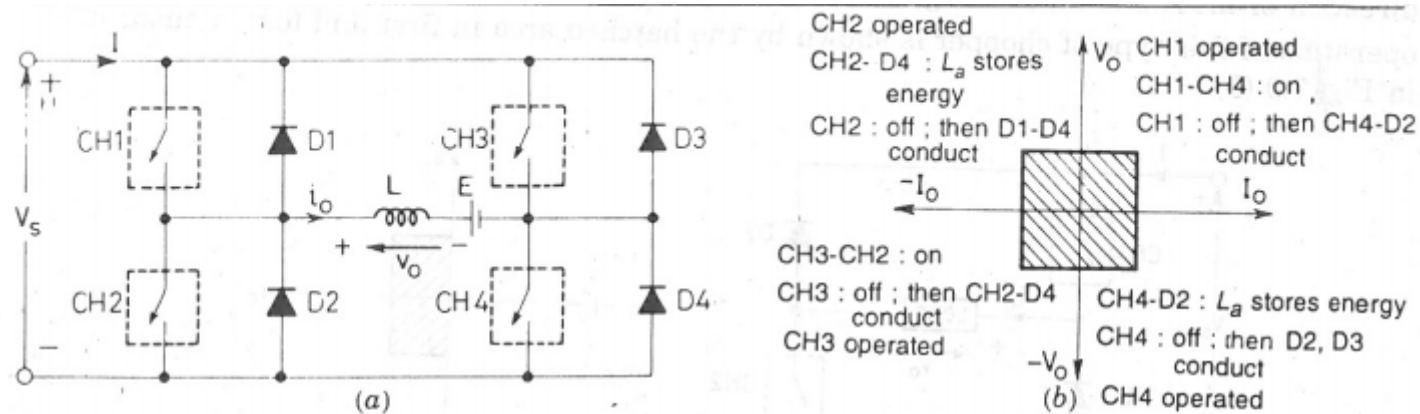

Fig. 7.10. Four-quadrant, or Type-E chopper
The power circuit diagram for a four-quadrant chopper is shown in Fig. 7.10 (a). It consists of four semiconductor switches CH1 to CH4 and four diodes D1 to D4 in antiparallel. Working of this chopper in the four quadrants is explained as under :
**First quadrant :** For first-quadrant operation of Fig. 7.10 (a), CH4 is kept on, CH3 is kept off and CH1 is operated. With CH1, CH4 on, load voltage  $v_0 = V_s$  (source voltage) and load current  $i_0$  begins to flow. Here both  $v_0$  and  $i_0$  are positive giving first quadrant operation. When CH1 is turned off, positive current freewheels through CH4, D2. In this manner, both  $V_0, I_0$  can be controlled in the first quadrant.
**Third quadrant :** For third-quadrant operation of Fig. 7.10 (a), CH1 is kept off, CH2 is kept on and CH3 is operated. Polarity of load emf  $E$  must be reversed for this quadrant working. With CH3 on, load gets connected to source  $V_s$  so that both  $v_0, i_0$  are negative leading to third quadrant operation. When CH3 is turned off, negative current freewheels through CH2, D4. In this manner,  $v_0$  and  $i_0$  can be controlled in the third quadrant.
**Fourth quadrant :** Here CH4 is operated and other devices are kept off. Load emf  $E$  must have its polarity reversed to that shown in Fig. 7.10 (a) for operation in the fourth
The devices conducting in the four quadrants are indicated in Fig. 7.10 (b).